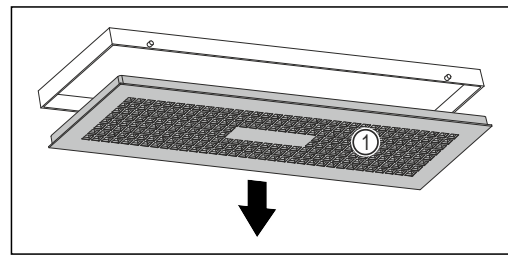

Fig. 85
- ▶ Slowly turn the water box downward and keep a firm hold on the cover Fig. 85 (1) while doing so.
- ▶ Remove the cover Fig. 85 (1).